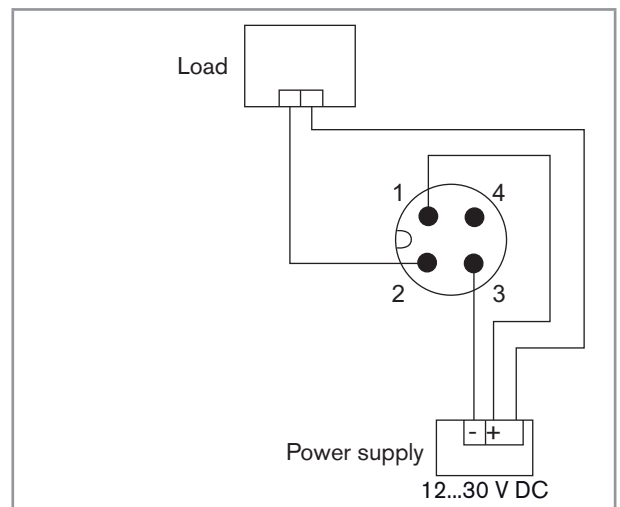
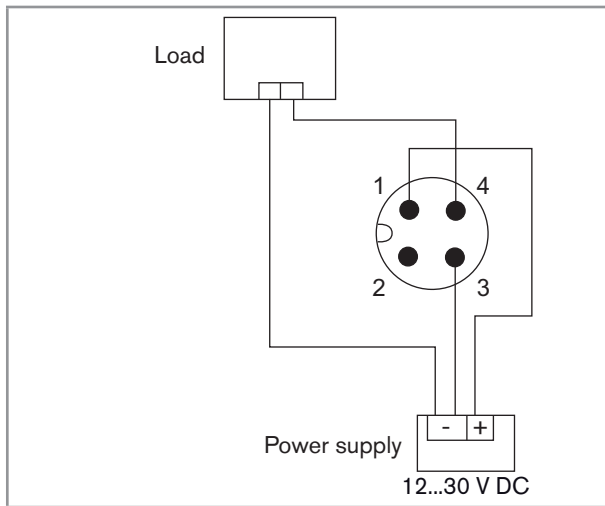

Fig. 8: Device with 4-pin M12 male connector – NPN connection of the transistor output
Fig. 9: Device with 4-pin M12 male connector – PNP connection of the transistor output
- Connect the transistor output (3-wire connection). The transistor output can be connected in the following modes: NPN or PNP. Refer to Fig. 8 or Fig. 9.